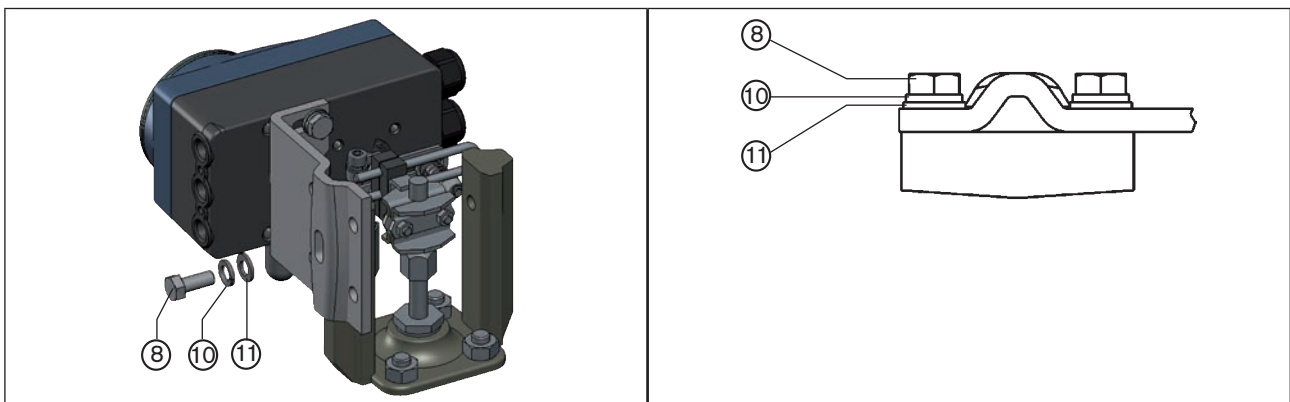

Figure 25: Attach positioner with mounting bracket; for actuators with cast frame
→ Attach mounting bracket to the cast frame with one or more hexagon bolts ⑧, washers ⑪ and circlips ⑩ (see “Figure 25”).